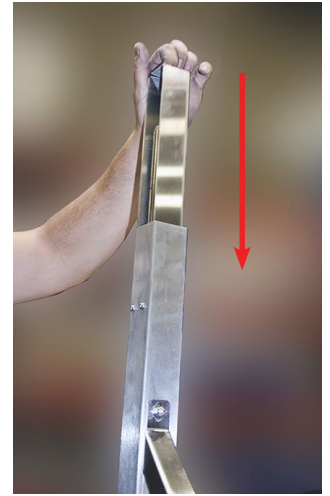

Fig. 36: Insert inner legs
1. Insert the inner leg into the outer leg (Fig. 36). If the hydraulic leg is not in the up position, keep a finger on the inner leg to control the rate of drop into the outer leg to avoid cutting the leg hydraulic line at the bottom.